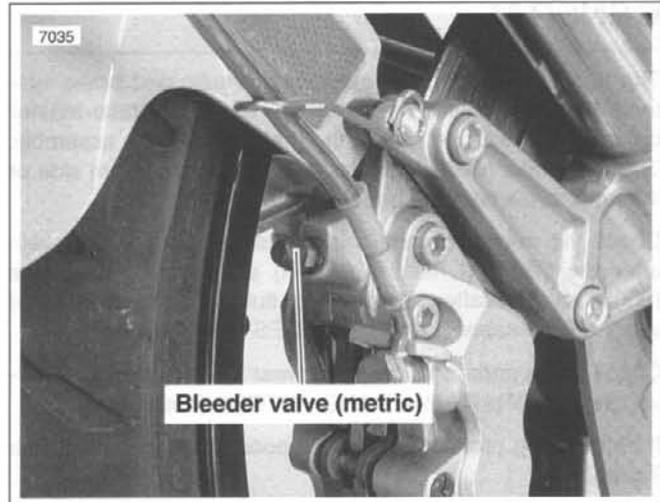

Figure 2-26. Draining Front Brake System
1. See Figure 2-26. Drain brake fluid into a suitable container. Discard of used fluid according to local laws.